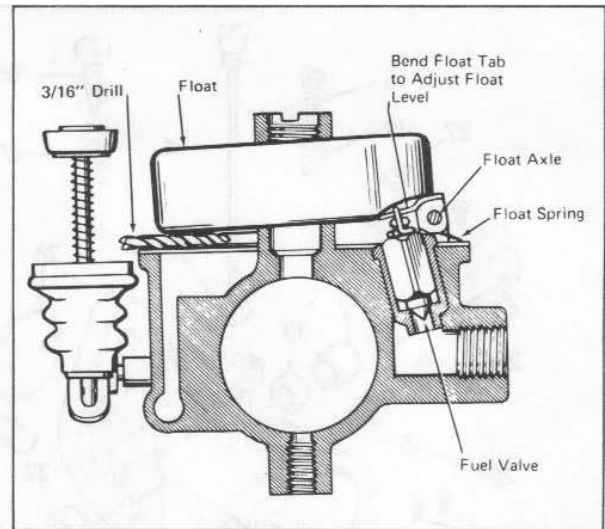

Figure 3-77
1. Position throttle return spring (29) on throttle shaft. Slide throttle shaft and lever (28) into seal retainer (31) and seal (33). Insert shaft in throttle shaft hole from side shown. Guide shaft into hole on opposite side of bore and press seal and retainer firmly against shaft hole boss.
2. Slide seal (32) and retainer (30) over end of throttle shaft and seat firmly against shaft hole boss.
3. Rotate throttle shaft until flat center section faces toward manifold opening. Install throttle disc (26) loosely with screws (27). Snap disc open and shut several times to center disc, and then tighten screws holding the throttle disc seated in the casting. Be sure the disc is held tightly closed.
4. Insert seal (24) and retainer washer (23) in choke shaft hole. Use a small punch to stake retainer in place.
5. Slide choke shaft and lever (22) through retainer and seal and seat shaft in hole in opposite side of air intake. Install plunger and spring (22A and 22B) at this time.
6. Rotate choke shaft until flat center section faces toward intake opening. Install choke disc (20) loosely with screws (21). Snap disc open and shut, and then tighten screws using the same procedure as for throttle.
7. If choke cup plug (25) was removed, install new plug in choke shaft hole on opposite side of throttle body.
8. Place throttle body with fuel bowl side up and install bowl to body gasket (15).
9. Insert fuel valve assembly (14) in fuel valve seat. Assemble float spring (13) and float (12) and install float pin (11). Be sure that fuel valve clip is attached to the float tab. If necessary, bend clip to provide minimum clearance with tab (approximately .010 in.).
10. With the carburetor inverted (inlet needle seated), bottom surface of float should be $3/16$ in. from gasket surface at point opposite hinge. A $3/16$ in. drill can be used as a gauge as shown in Figure 3-77. If adjustment is required, use long nosed pliers to bend the tab that contacts the fuel valve. Be careful to avoid damage to the fuel valve or seat.
11. Install throttle stop screw (18) and spring (19). Adjust screw to open throttle slightly but not far enough to uncover the No. 2 idle discharge hole.
12. Install idle mixture needle (16) and spring (17). Screw needle IN until it seats lightly against the No. 1 idle discharge hole, then back it out 1-1/2 turns as a preliminary idle adjustment.
Carefully position the fuel bowl on the throttle body releasing the float spring so that the long end of the spring presses against the side of the bowl (refer to Figure 3-77). Be sure that the accelerating jet fits properly in the hole in the throttle body.